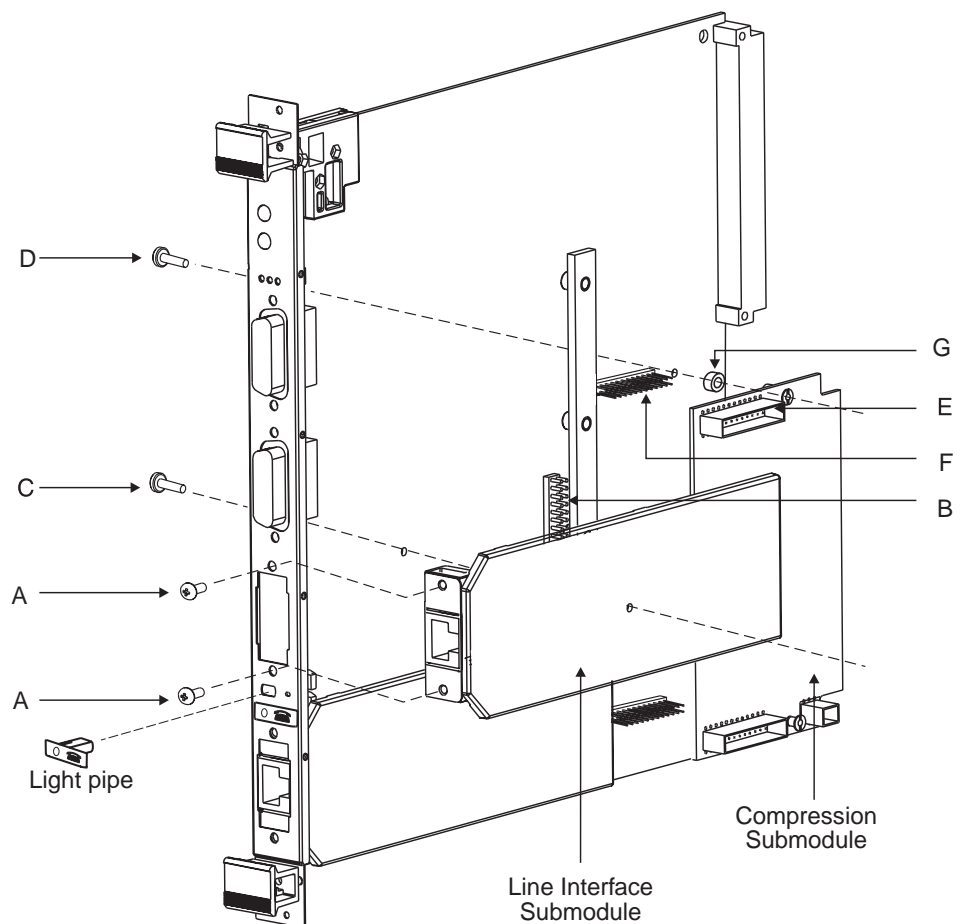

Figure 59: Fitting submodules to the COMBO
- 1 Referring to Figure 59, remove the blanking plate from the front panel connector cutout and retain the screws (A).
- 1 Referring to Figure 59, remove the module fastening screws (A and C) from the submodule and front panel connector.
- 2 Gently remove the submodule from the connector pins (B), ensuring that they remain aligned until the submodule is clear of the board.
- 3 Fit a blanking plate to the front panel connector cutout and secure with screws (A).
Note *For clarity, only the top fastening screw and spacer are shown in Figure 59. The lower screw and spacer must also be fitted when installing the submodule.*
- 1 Referring to Figure 59, remove the two module fastening screws (D) from the submodule.
- 2 Align the two submodule mating sockets (E) with the COMBO board connectors (F) and press the submodule into position. Ensure that the two nylon spacers (G) are positioned correctly on the mating holes.
- 3 Insert the module fastening screws (D) into the back of the module and screw the submodule into position.
- 2 Referring to Figure 59, remove the submodule fastening screws (D) from the module.
- 4 Gently remove the submodule from the COMBO connector pins (F) and refit the module fastening screws (D) to the submodule.